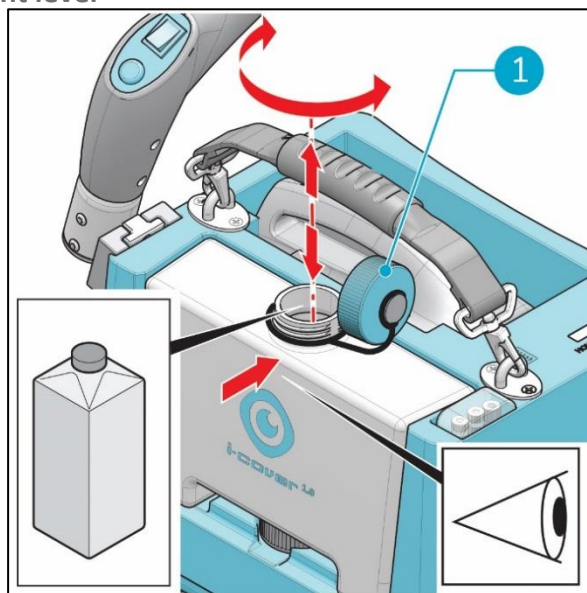

Figure 11
3. Turn the filler cap (Figure 11, pos 1) of the disinfectant tank anti clockwise to remove it.